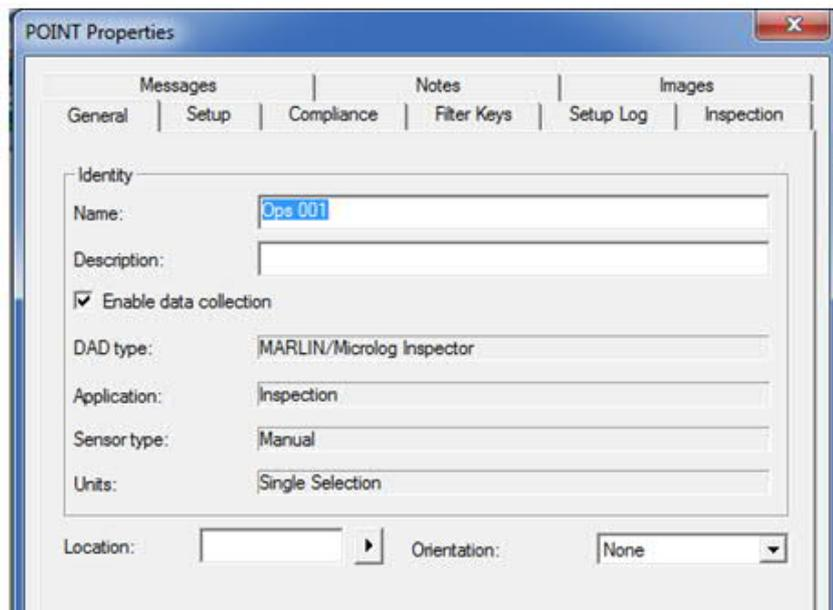

Figure 5. POINT Properties
6. Create the Ops POINTs (Ops 001, Ops 002, etc.) under the Operations group. Configure the POINTs as MARLIN/Microlog Inspector, Inspection, Manual, Single selection. [Figure 5]